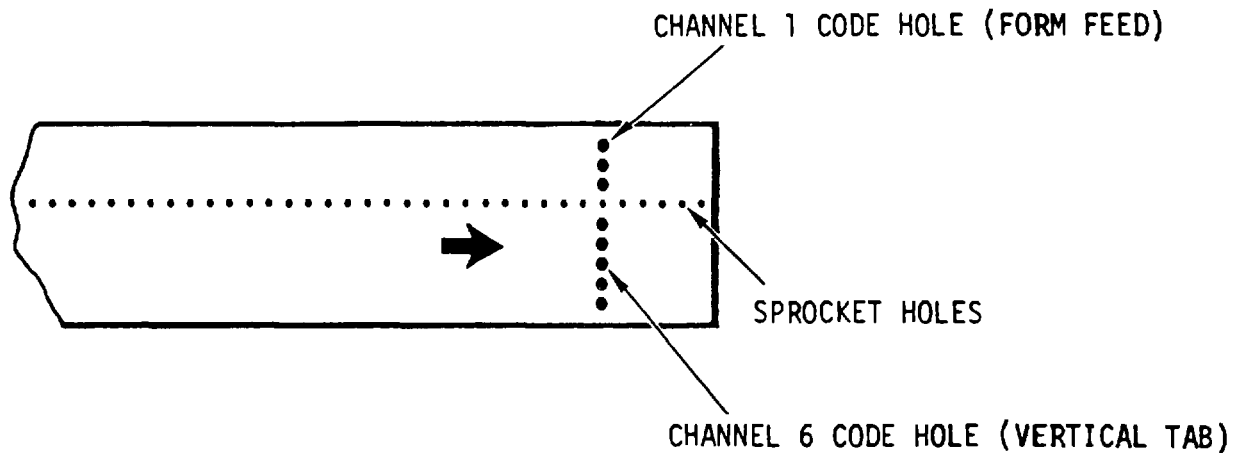

Figure 2-3. VFU Punched Tape
The VFU tape (fig. 2-3) is standard one-inch wide opaque paper or mylar tape. It comes with prepunched sprocket holes that correspond to the lines on a form. Additional holes, known as channel code holes, may be punched in the tape by the punch and splicer device. Although eight channel code holes may be punched, only two are recognized by the line printer. They are channel one code hole for Form Feed (FF) and channel six code hole for Vertical Tab (VT).